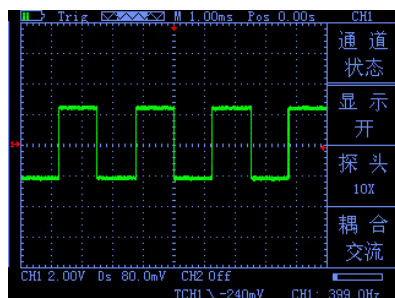

Figure 2-8
- If you set the vertical direction 2.00V/div, press "CH1" → "o" " to adjust the vertical volts / division, press " or " to move up and down the entire waveform. As Figure 2-8